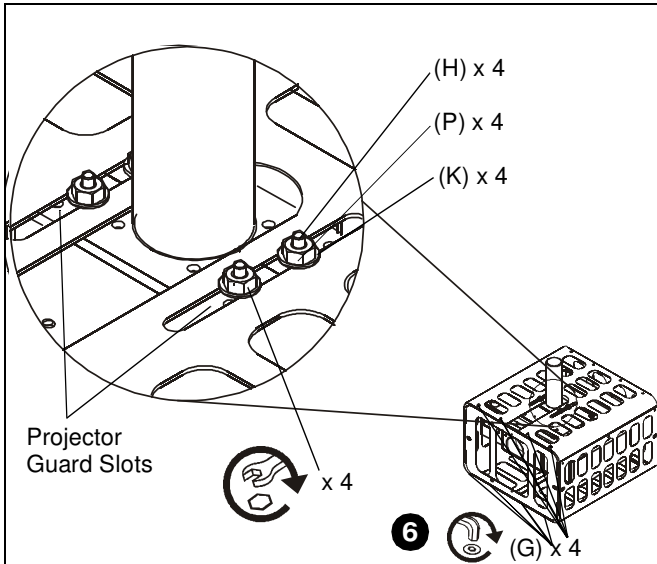

Figure 8
2. Slide the projector guard (A or B) into position over the projector, while aligning the slots on the projector guard with the screws in the RPA/RPM mount. (See Figure 8)
4. Reinstall the 1/4" hex nuts (P) and 1/4" washers (K) onto the screws (H). (See Figure 8)
6. Install four 10-24x3/8" security screws (G) in remaining four holes. (See Figure 8)